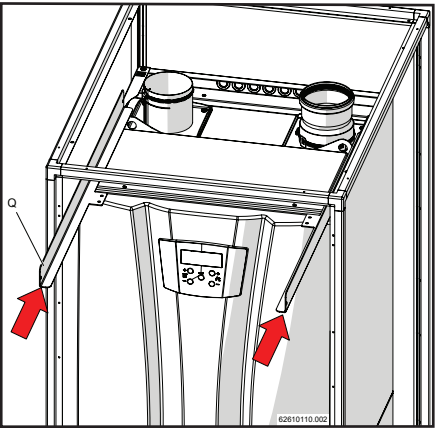
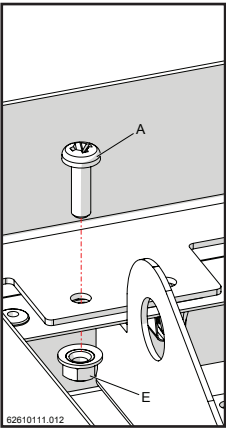
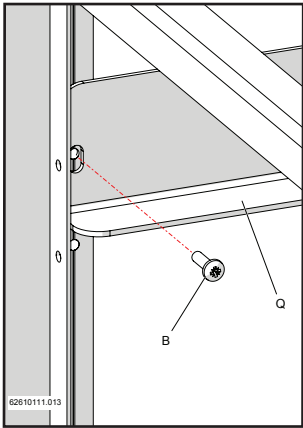

Figure 15-12
Figure 15-14
Figure 15-15
- 7.- Insert the upper fixing rods "Q" (figures 15-12 and 15-13). Then put in screw "A" with nut "E" for fastening the rods to the boiler (figure 15-14) and screw "B" for fastening the rods to the framework of the external cover (figure 15-15).